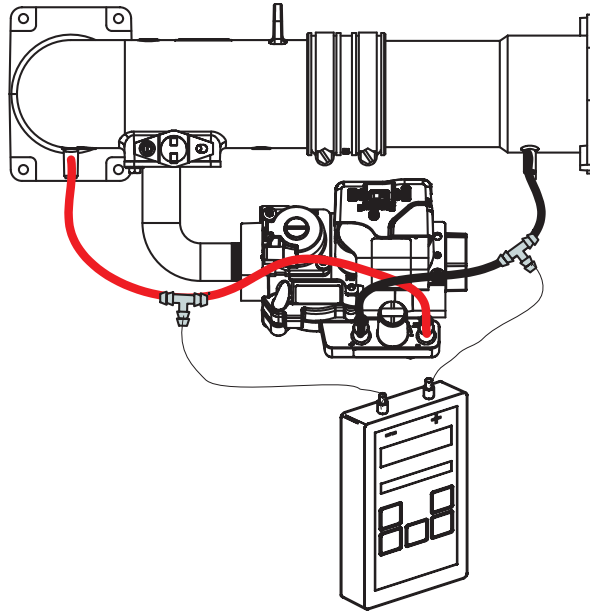

FIGURE 56
- 3 - Install hoses and meter as shown in FIGURE 56 for signal pressure measurement.